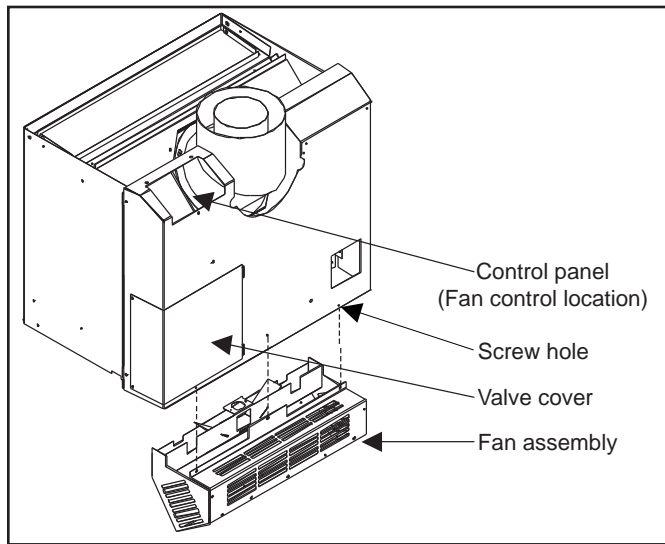

Figure 51: Optional Blower (Fan) Installation
2. Place the fan assembly behind the unit and secure with the three screws provided, (as shown in Figure 51).